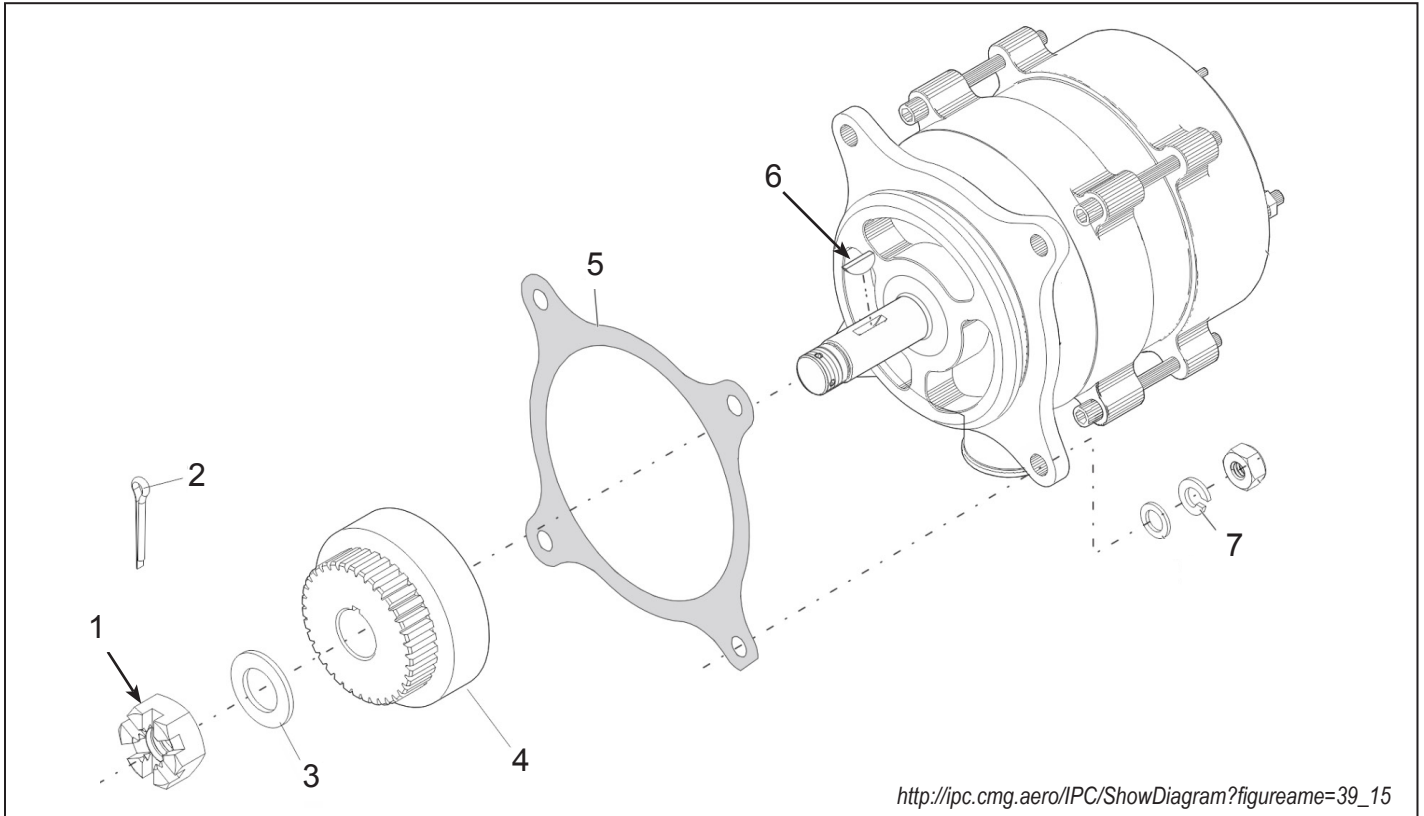

Figure 1 - Alternator, Typical - Continental Aerospace Technologies
- (1) Alternators listed in section 1.A could contain a castellated hex-nut (1, Figure 1) that does not torque flush with the thrust washer (3). This condition could compromise the integrity of the drive coupling retention system.
- (2) This ASB is to advise the field of a known condition and to supply inspection criteria to identify affected alternators.
Table 1- Materials Required (Refer to Figure 1)
- (5) Remove and discard from alternator; Cotter Pin (2), Castellated Hex-Nut (1), Thrust Washer (3), and Woodruff Key (6). Refer to Figure 1.
- (6) Install new replacement components not affected by this ASB onto the alternator in accordance with applicable engine manufacturer's maintenance manual. Refer to Table 1 - *Materials Required*.